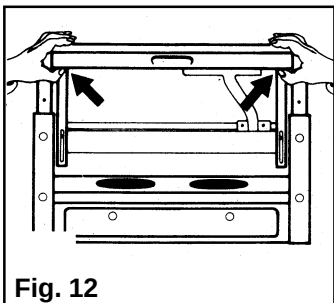

Fig. 12
- Remove the internal cover pressing both unlocking devices (press and pull). **Fig. 12.**